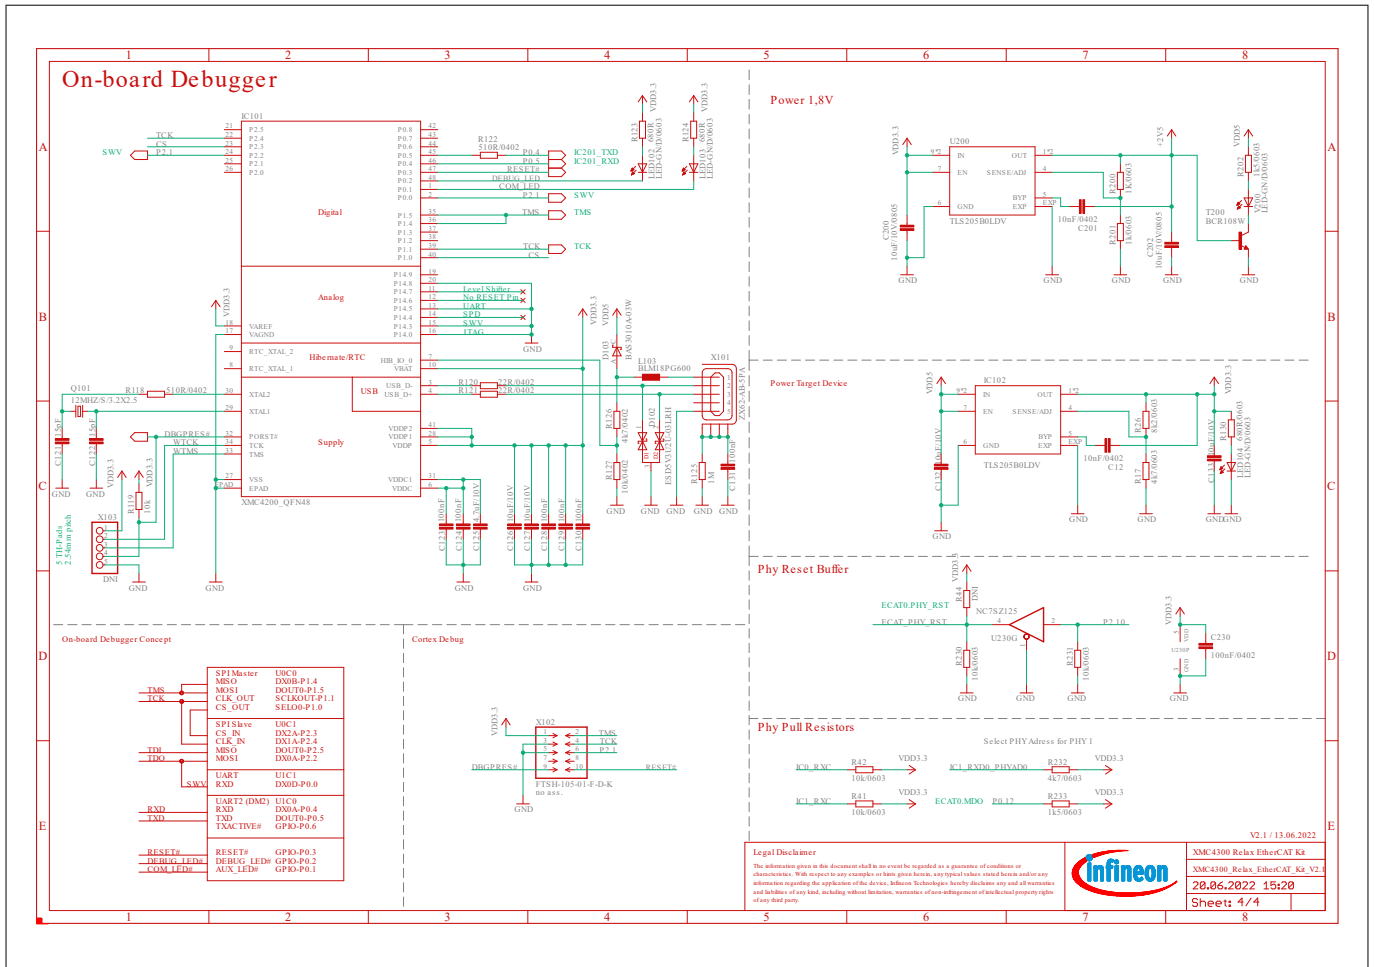

Figure 18 On-Board Debug Probe, Pxx Supply (See Revision 1.2)
- Figure 18 (See Revision 1.2)